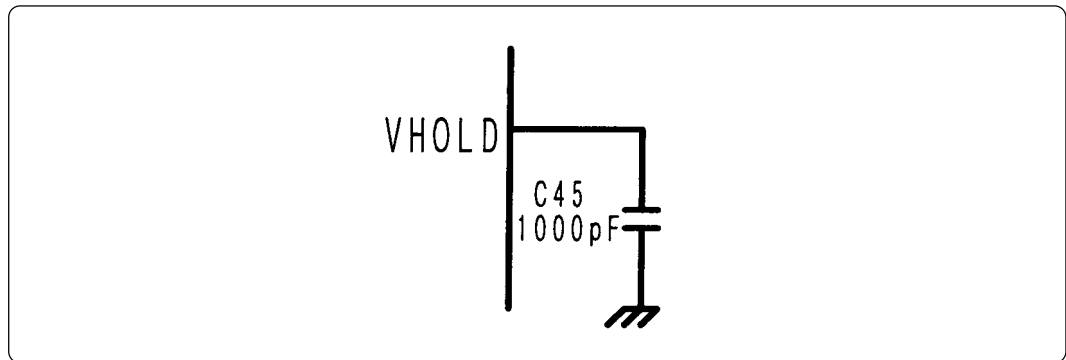

Figure 3.11 Signal circuit of VHOLD pin
(3) Figure 3.11 shows the number of part which is connected to VHOLD pin, the constant of part and the connection circuit.